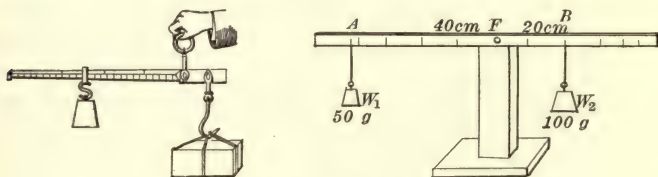

FIG. 9. — Two unequal forces.
the force on the other side multiplied by the distance of its line of action from the fulcrum. For example, in figure 9,
3. In figure 9 the movable weight on an old-fashioned steelyard weighs 3 pounds, and is placed at such a distance as to balance a 50-pound sack which is hung from a point 1 inch from the point of support. How far from the point of support must the sliding weight be placed?